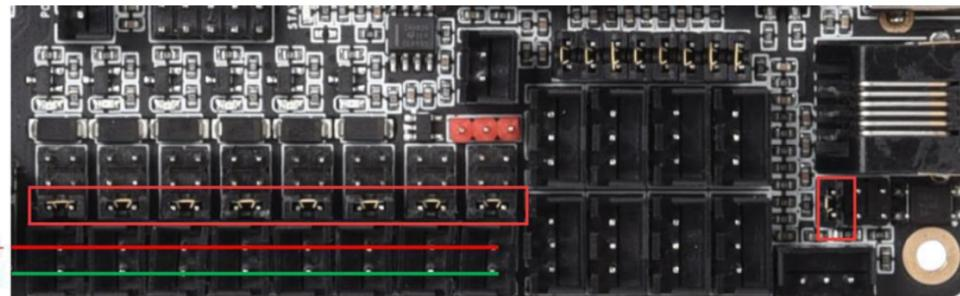

Figure 2: Jumpers near fan headers. Configured to deliver 24V to fan headers
- Adjust the jumpers on the bottom row of fan headers to configure 24V output as shown in Figure 2.